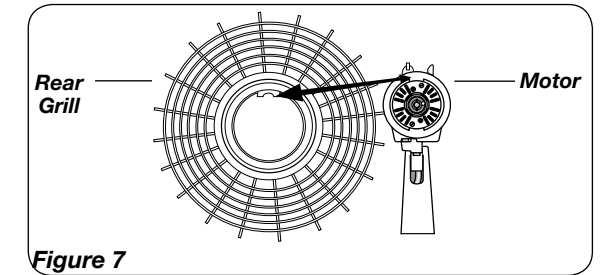

Figure 7
1. Tilt **Head Assembly** back. Put **Rear Grill** on Motor. (Figure 7)